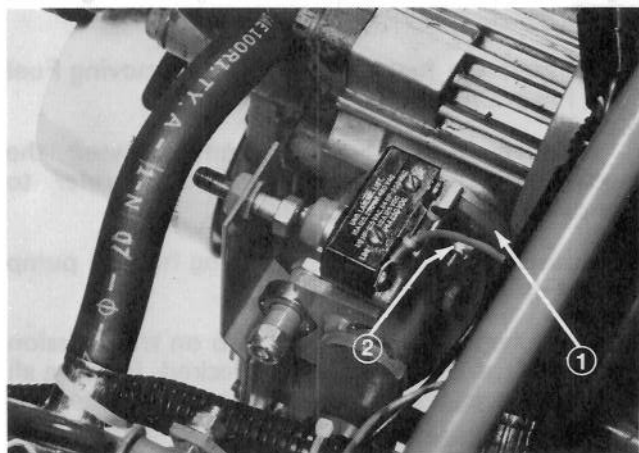

Figure 72
4. Loosen two locknuts securing pump plate so plate is free to move (Fig. 72).
5. Start engine and rotate pump plate (Fig. 72) in either direction until wheel ceases rotation.
1. Pump plate 2. Locknut (2)
6. Stop engine and tighten locknuts to secure pump plate (Fig. 72).